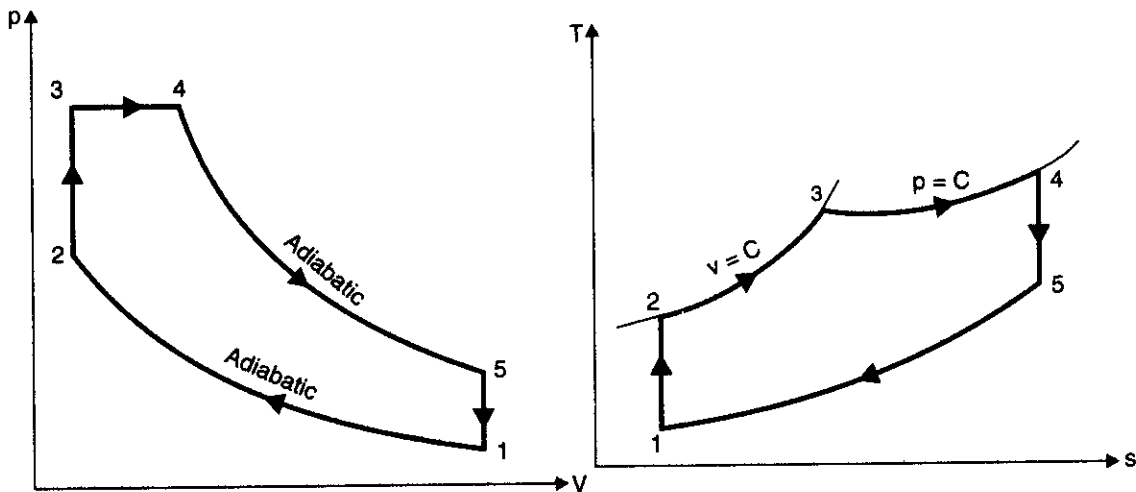

Fig. 13.19.
The dual combustion cycle (Fig. 13.19) consists of the following operations :
**Solution.** Refer Fig. 13.19.